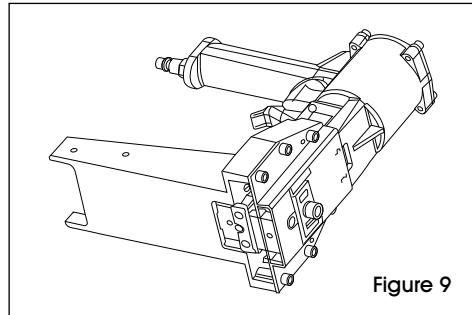

Figure 9
1. Remove magazine. (See Figure 9)